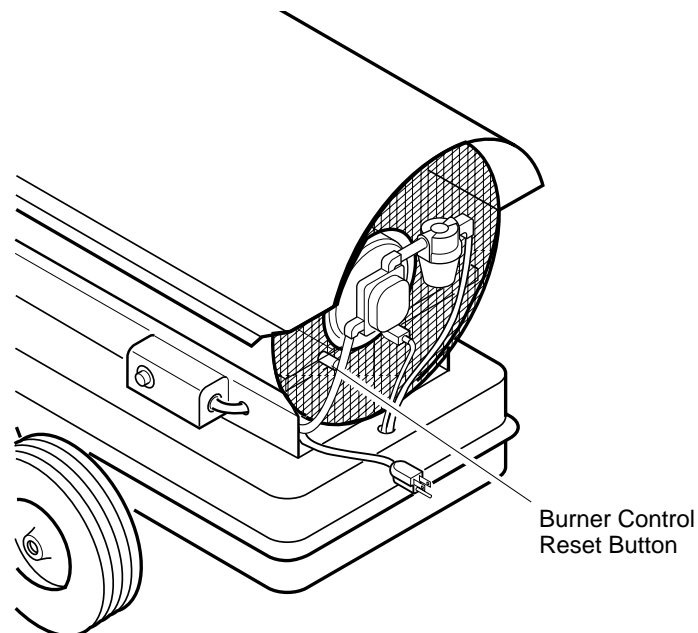

Figure 4 - Burner Control Reset Button
6. The motor will start when power cord is plugged into outlet. The heater should ignite at once. If heater does not ignite, restart heater. To restart heater, wait 60 seconds, then push in burner control reset button. Burner control reset button is at rear of heater near power cord (see Figure 4).
4. Press and release burner control reset button. See Figure 4, page 8 for button location.